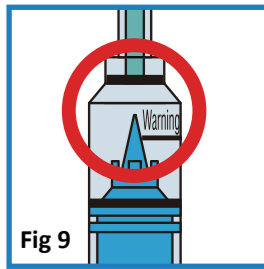

Fig 9
- Do not push the plunger over the "warning" line before injection (Fig 9).